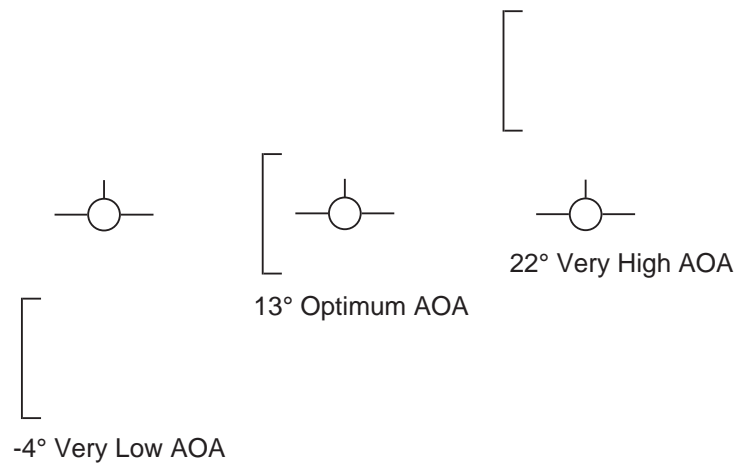

Figure 1-13 AOA Bracket
**Angle-of-Attack (AOA) Bracket.** The AOA bracket indicates angle of attack angles between -4 degrees (deg) and 22 deg to aid the pilot in establishing the optimum AOA of 13 deg for landing. Figure 1-13 shows the AOA bracket limits: